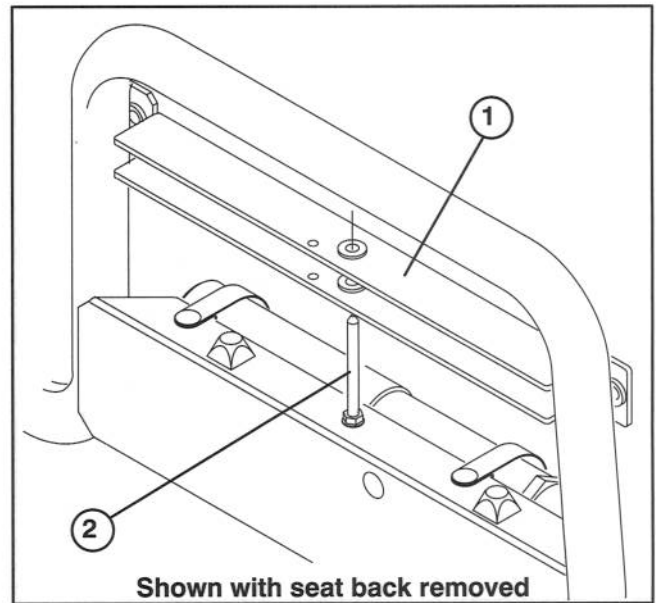

Figure 7
4. Mount cushion with seat back brackets and manual tube R-clamps to left seat back with (4) 5/16–18 x 5/8" lg. carriage bolts and flange locknuts.
5. Slide bed support onto storage stud (Fig. 7).